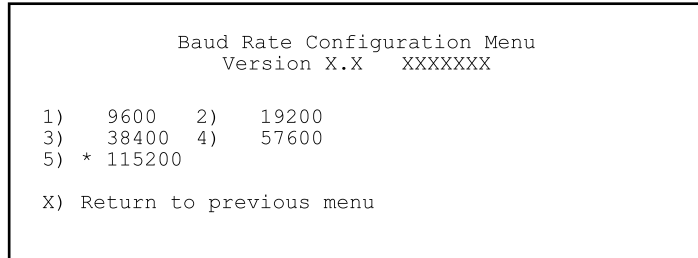

Figure 69: Baud Rate Configuration menu
In the Configuration Menu, select **Baud Rate Configuration (1)** to change the baud rate used on the serial port (see Figure 69).